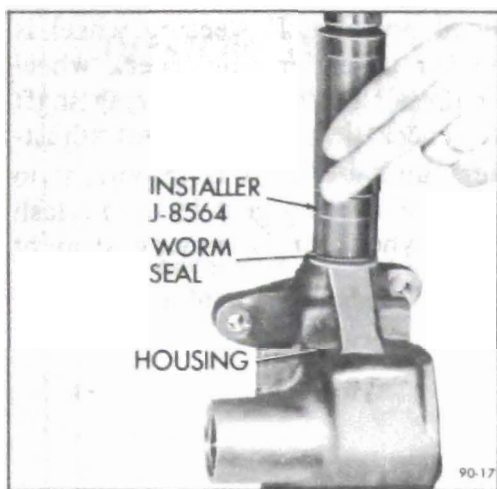

Figure 90-10 Installing Worm Shaft Seal
9. Install new worm shaft seal using Installer J-8564. Drive seal flush with surface of housing. See Figure 90-10.